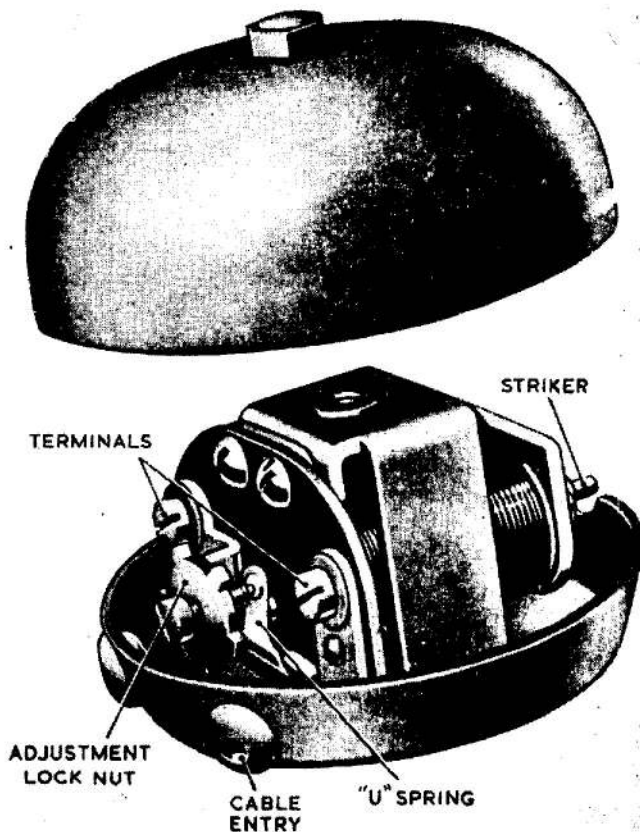

Fig. 1. Warning bell, Gent Type 396
**DESCRIPTION****General (fig. 1)**